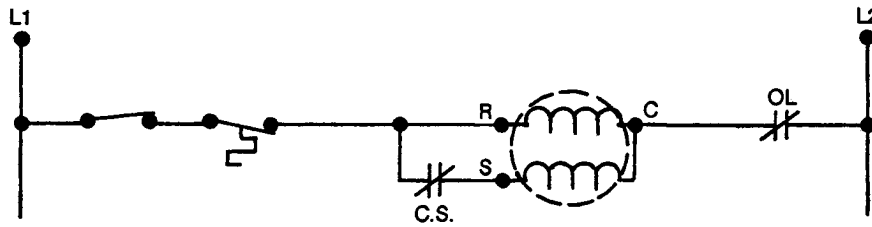

FIGURE 17-10. Simple Line Diagram Of the Single-Phase Motor.
Figure 17-10 is a basic one-line diagram of the split-phase motor. It shows the run and start winding of the stator as well as the centrifugal switch (CS).